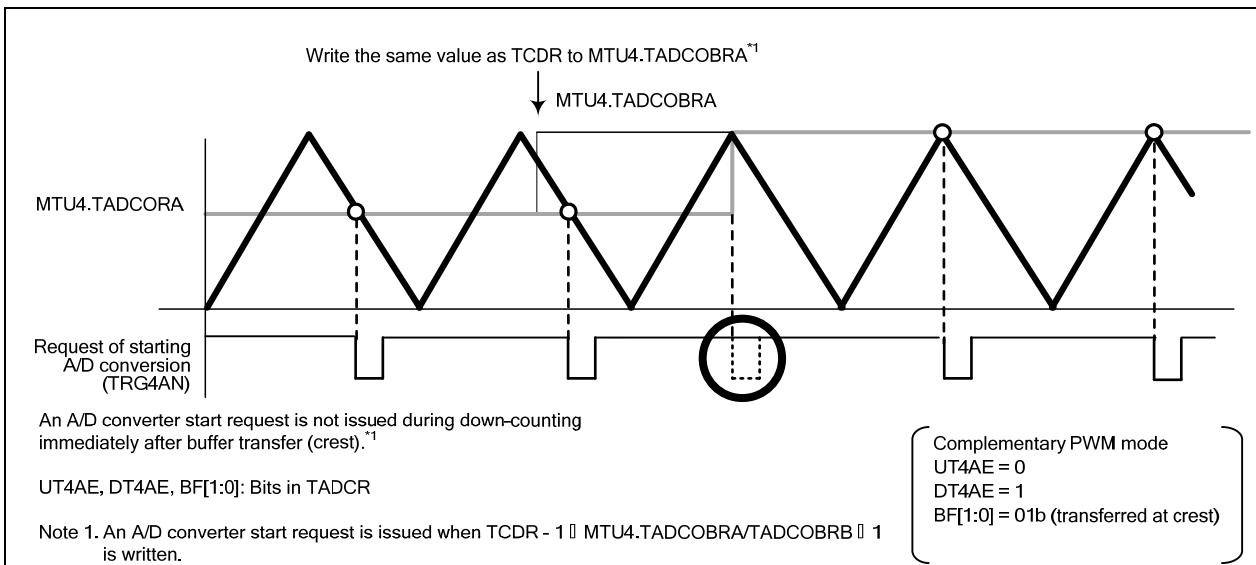

Figure 2.2 A/D Converter Start Request When the Same Value as TCDR is Written to MTU4.TADCOBRA
- When the same value as that of TCDR is set to MTUn.TADCOBRA/MTUn.TADCOBRB and the DT4AE or DT4BE bit in MTUn.TADCR is set to 1, and the result is transferred to the buffer when counting by MTUn.TCNT reaches its crest, an A/D converter start request is not generated during the down-counting period immediately following the transfer (Figure 2.2).